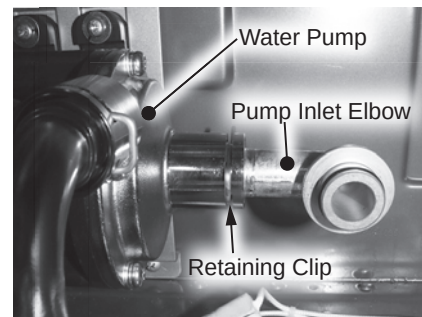

Figure 162 - Pump inlet elbow location
- Locate the pump inlet elbow. Remove the retaining clip securing elbow to water pump. Remove pump inlet elbow and dispose of properly. See Figure 162.